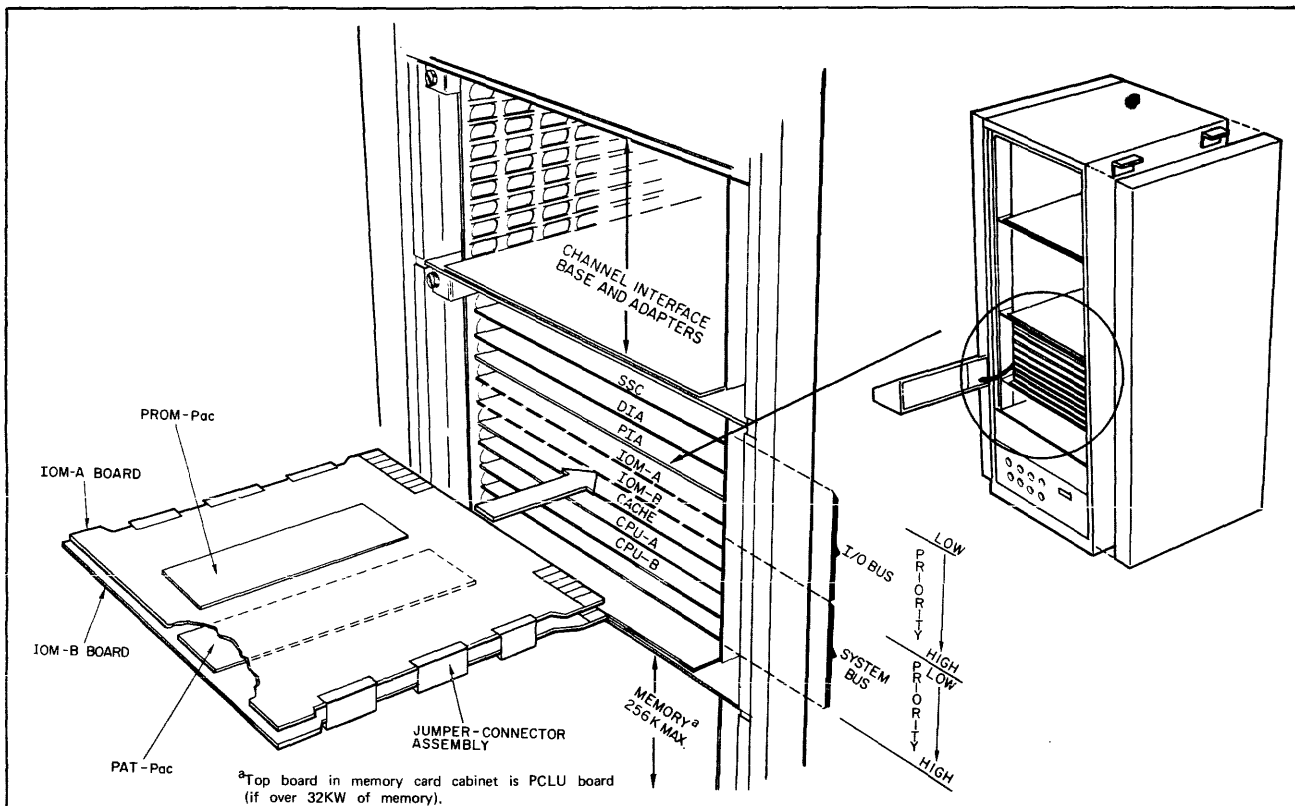

Figure 3-3. Board Locations
5. Check the boards in the cabinet for any lit LED indicators. If there are no LED indicators lit, proceed to step 6; otherwise refer to Figures 3-3 and 3-4, and Tables 3-2, 3-3, or 3-4 as appropriate. Notify FED which board is defective.